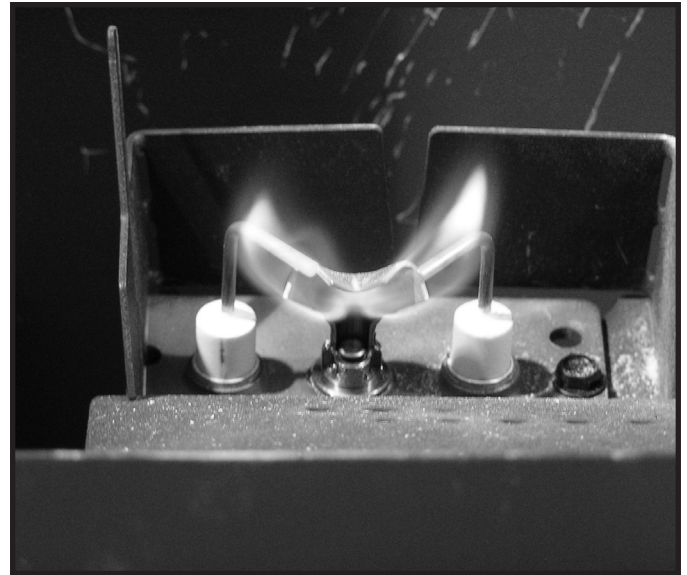

Figure 4.2 IPI Pilot Flame Patterns - Generic Pilot Bracket Shown
- Inspect pilot flame pattern and strength. See Figure 4.2 for proper pilot flame pattern. Clean or replace orifice spud as necessary.